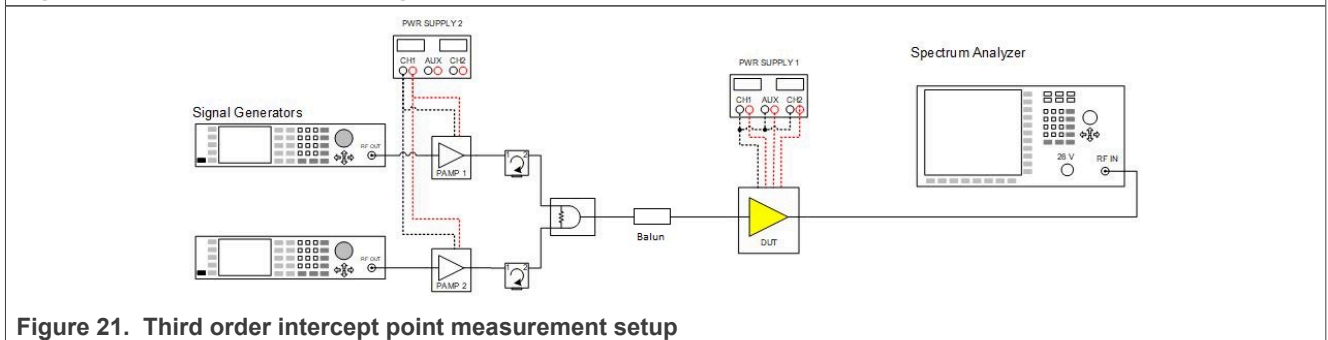

Figure 21. Third order intercept point measurement setup
IP_{3o} is measured using the setup shown in Figure 21.
- 5. Nonlinear distortion measurements IP3 can be performed with a set-up like is depicted in Figure 21. The following settings are recommended to perform the IP3 evaluation.